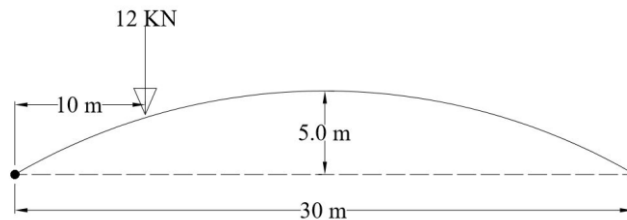

Fig.11
- (b) A parabolic arch, hinged at the ends has a span (L) 30 m and rise 5 m. A concentrated load (W) of 12 KN acts at distance (x) 10 m from the left hinge. The second moment of area varies as the secant of the slope of the rib axis. Calculate the horizontal thrust and the reaction at the hinges. Also, calculate the maximum bending moment anywhere on the arch. (Refer Fig.11)